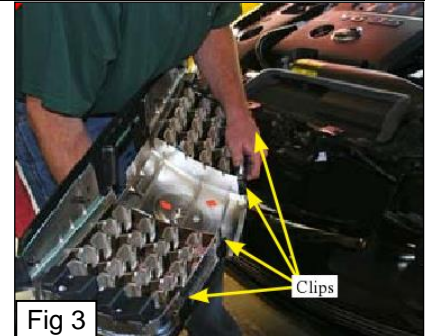

Fig 3
| 4    | Located along the bottom of the stock grille shell there are (4) clips that need to be released, do so by squeezing or pulling up on them. Grille shell will be free at this point. You will not be using the stock grille shell for the rest of the install.(Fig 3) |  |